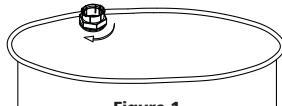

Figure 1
1. Please see figure 1. Install the bung adaptor (ref # 29) into the barrel or drum from which liquid is to be pumped.